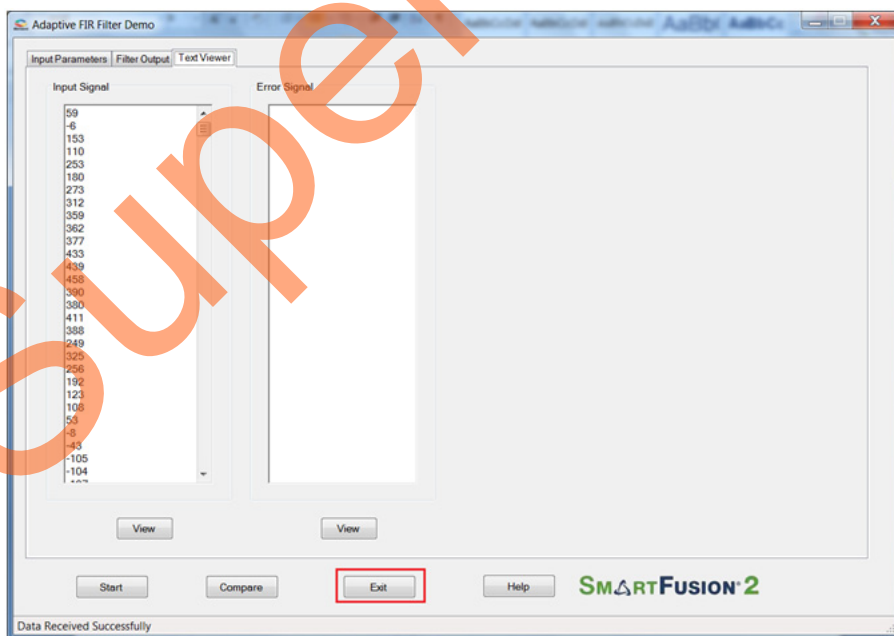

Figure 28 • Exit Demo
18. Click **Exit** to stop the demo, refer to Figure 28.